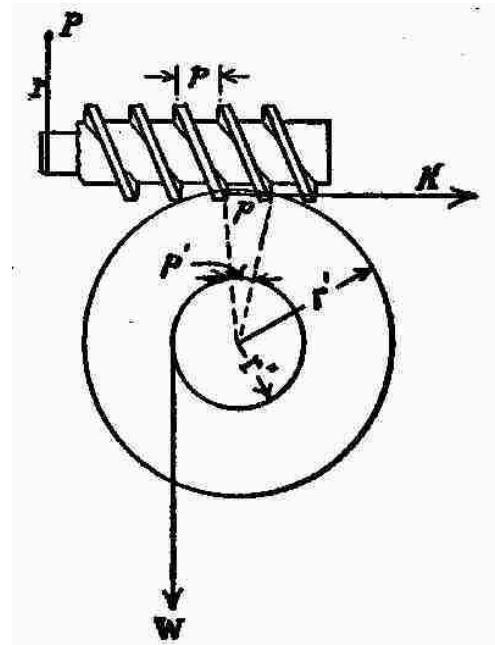

Fig. 34. Worm wheel and screw
The worm gear (Fig. 34) is a special case of screw and nut, where the latter is replaced by a toothed wheel called a worm wheel. The teeth work in with the thread of the screw or worm, and thus, as the worm revolves, the worm wheel revolves about its axis. P is the force acting on the worm at a radius r . r' is the pitch radius of the teeth in the worm wheel and r'' is the radius of the drum on which W acts. Let K , corresponding to W in equation $W = \frac{P2\pi r}{p}$ (6), be the force at the pitch circle and worm threads due to the force P ; then